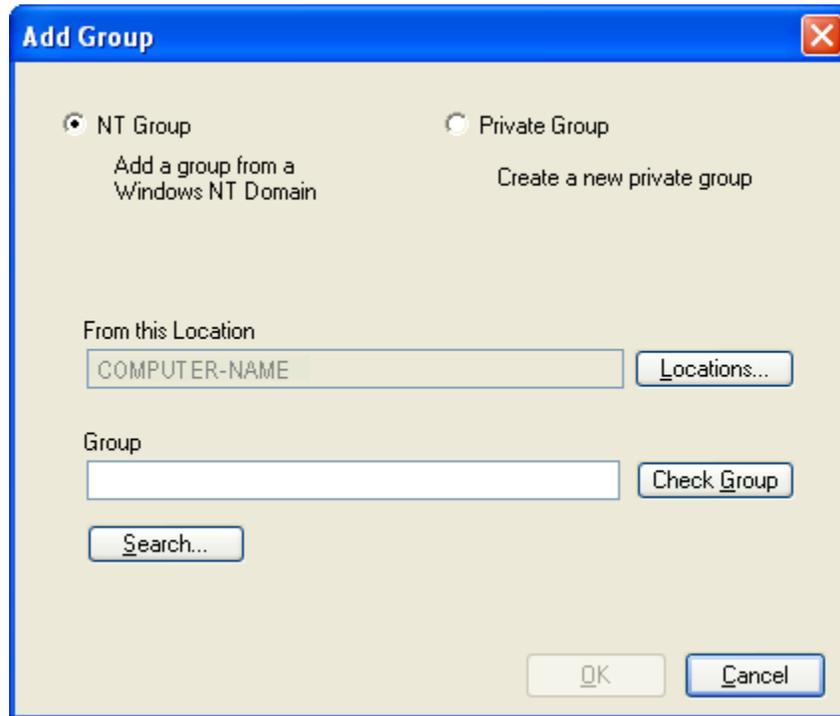

Figure 48 - Add Group Window (NT)
- The **Add Group** window (Figure 48) appears. The **NT Group** option button is selected by default. This will allow the addition of an NT group from a Windows NT Domain.
- The **Add Group** window (Figure 48) appears.